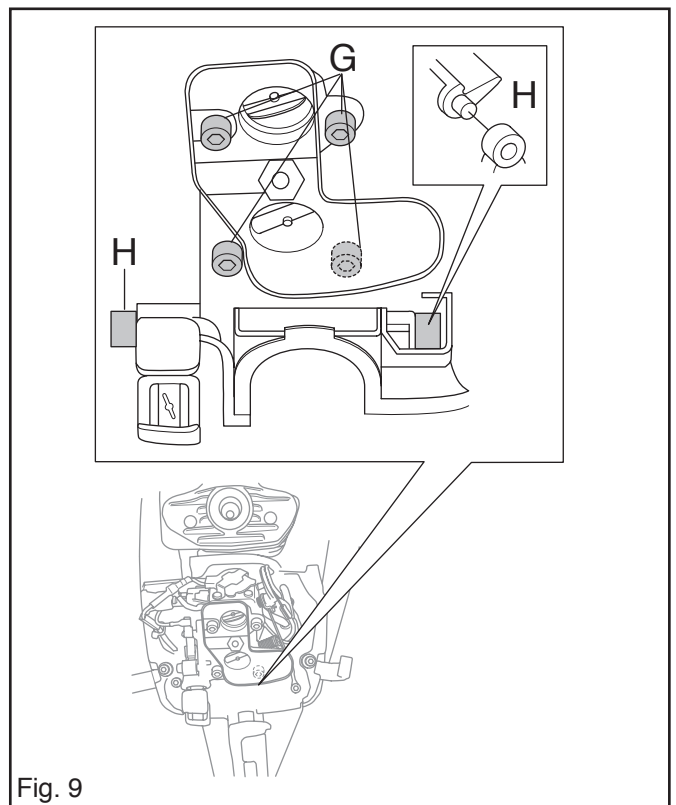

Fig. 9
5. Remove 4 bolts (G) which secure the filter holder, carburettor and choke system.
6. Loosen the filter holder and disconnect the rear rubber mounts (H). See fig. 9.
7. Remove the filterholder with carburettor and choke system. See fig. 9.